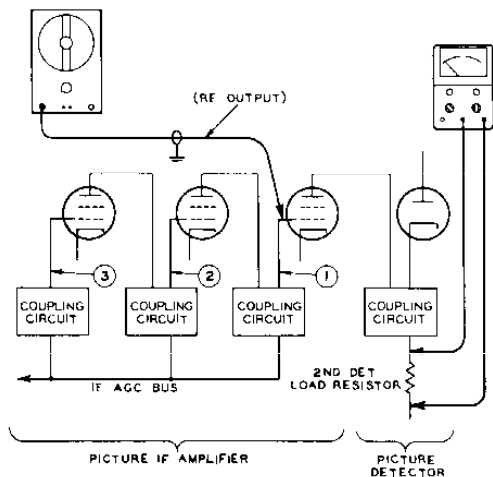

Figure 11. Setup for making approximate stage gain check in picture-if amplifier
Figure 11. Checking approximate stage gain in a picture-if amplifier. The age circuit should first be rendered inoperative as described in Figure 12. Set up the VoltOhmyst to measure dc voltage and connect the VoltOhmyst across the second-detector load resistor
1. Connect the rf output cable of the WR-50B to the grid of the last picture-if tube, shown as point "1" in Figure 11. Tune the WR-50B to a frequency in the picture-if pass band for maximum indication on the meter. Adjust the output (without modulation) to produce 0.5 volt across the load resistor